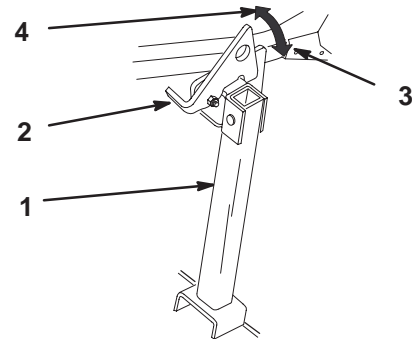

Figure 17
1. Raise latch to unlocked position (Fig. 17).